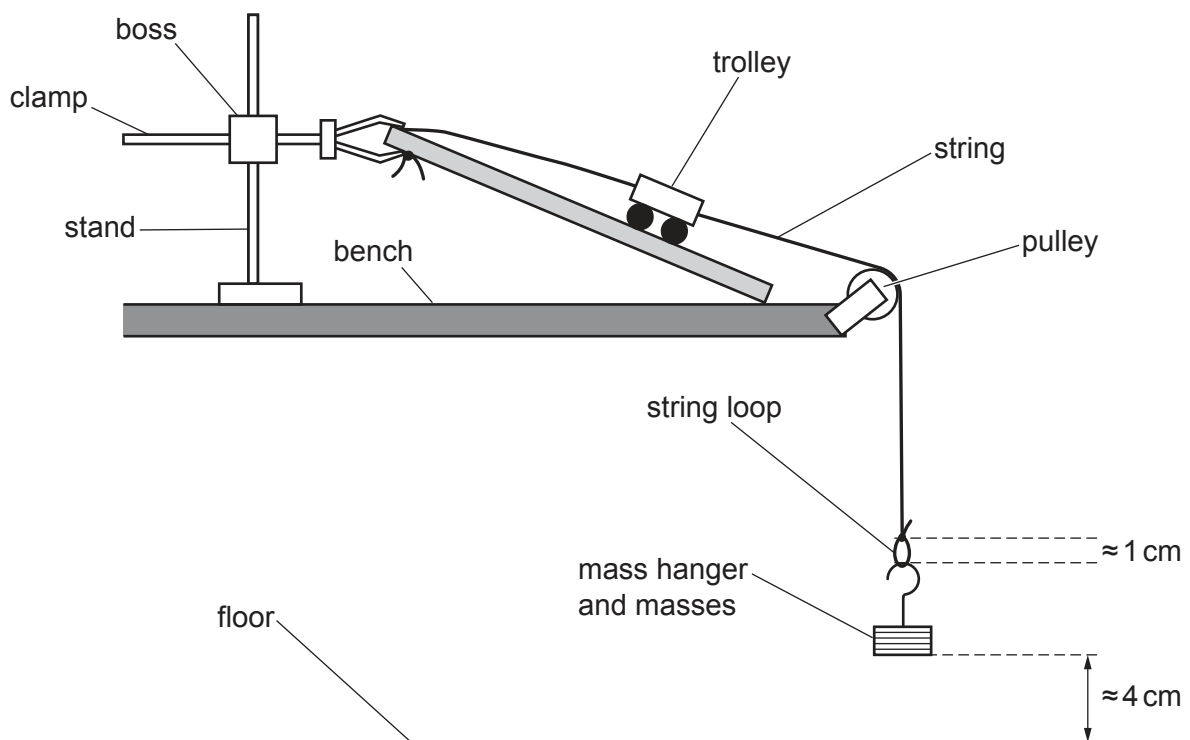

Fig. 2.2 (not to scale)
- 2 Firmly attach a second string to the front of the trolley and assemble the apparatus as shown in Fig. 2.2. Adjust the length of the string until the bottom of the mass hanger is approximately 4 cm above the floor. Remove the mass hanger and masses from the string loop.
- 3 The apparatus should be set up as in Fig. 2.2. The mass hanger and masses should then be placed on the bench. All other apparatus should be laid out on the bench. If the apparatus is to be used by another candidate, then it should be restored to its original state.